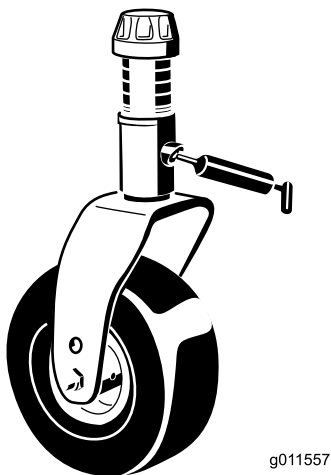

Figure 38
- 2 caster-fork-shaft bushings (Figure 38)